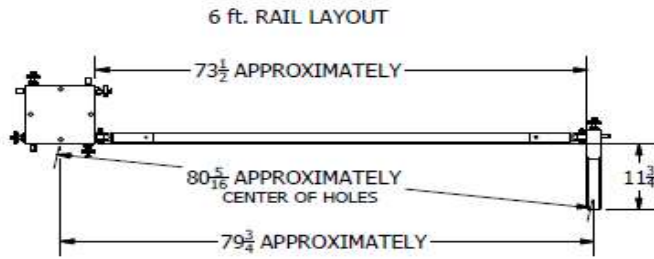

Fig. 6a
3. **Align each Upright with the center frame as layouts below (6' or 8').** Measure all dimensions as shown below before proceeding to the next step (see Fig. 6a & 6b).